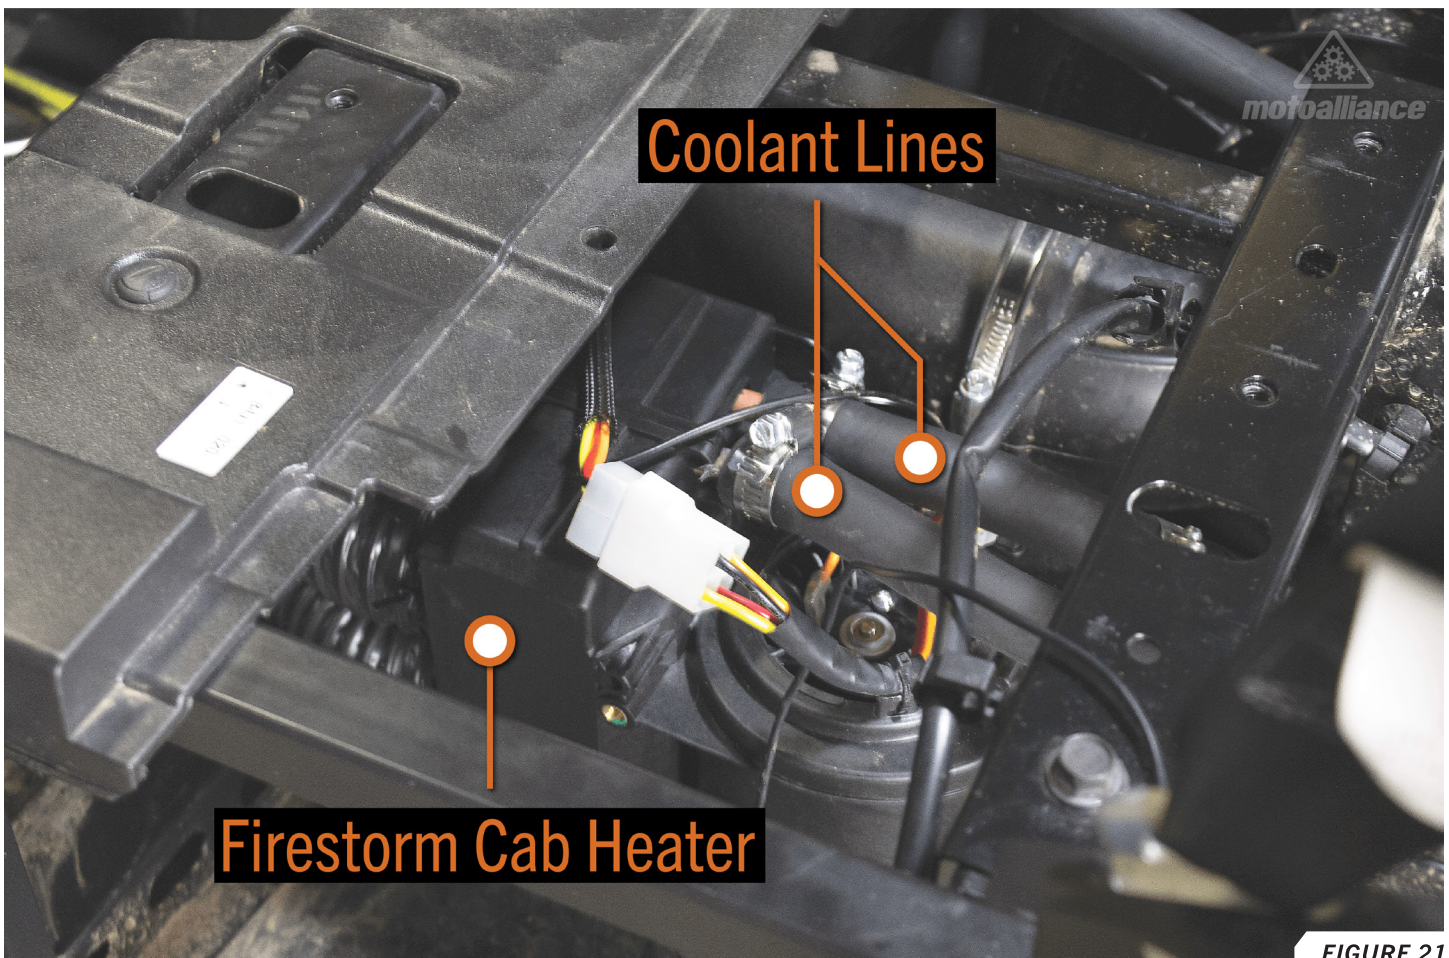

FIGURE 21
44. Connect the two coolant lines in the cavity under the driver's seat to the FIRESTORM Cab Heater. **FIGURE 21**